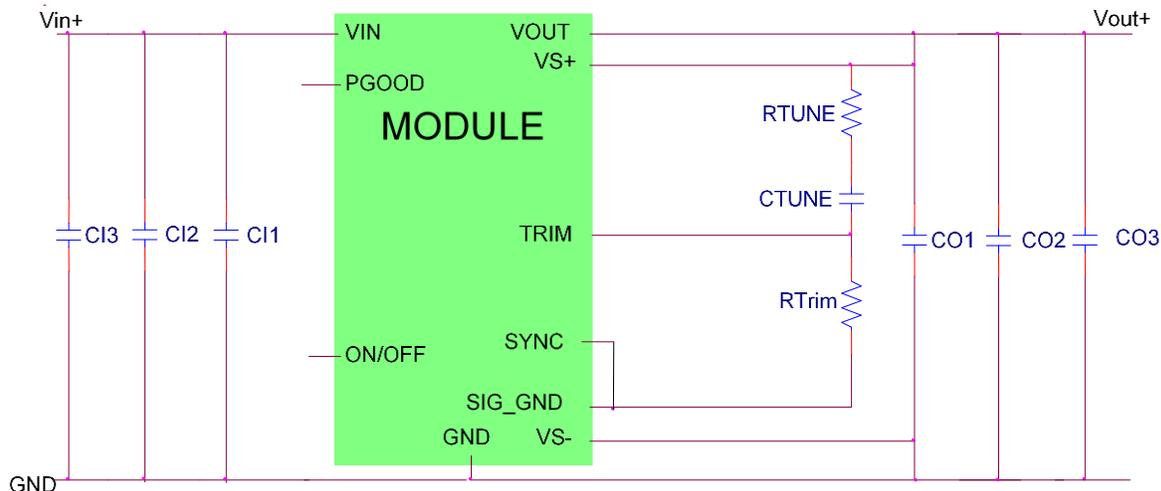

Figure 7. Typical Application Circuit of the IND072 regulator.
- **Minimize loop area** - To provide the most effective filtering and avoid noise coupling from a regulator to other parts of the circuit, it is recommended that the loop area for both power and signal traces to the regulator be minimized. To minimize input noise, it is necessary to reduce the parasitic inductance of the input loop significantly, by reducing the loop area. Using a high frequency, low ESR and ESL bypass capacitor, close to the regulator module input pins reduces the area of this loop significantly. Figure7 shows a typical application circuit incorporating these recommendations. For reducing high-frequency switching noise at the input and output of the module, 0.047μF (0402), 0.1μF (0402), etc. small package ceramic capacitors (CI1 and CO1 in schematic) should be placed at the input and output of the module. Capacitors used for minimizing the ripple component (CI2, CI3, CO2 & CO3) are termed as bulk capacitors with capacitance needed being in the order of tens or hundreds of μF.